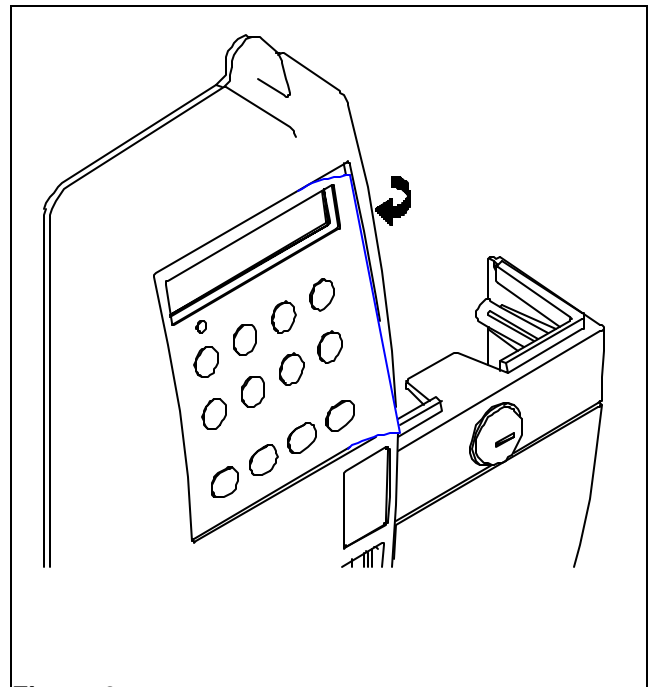

Figure 2
8. Route the new keypad cables through slot in bezel, peel off adhesive backing and press firmly to secure new keypad (Fig. 2).